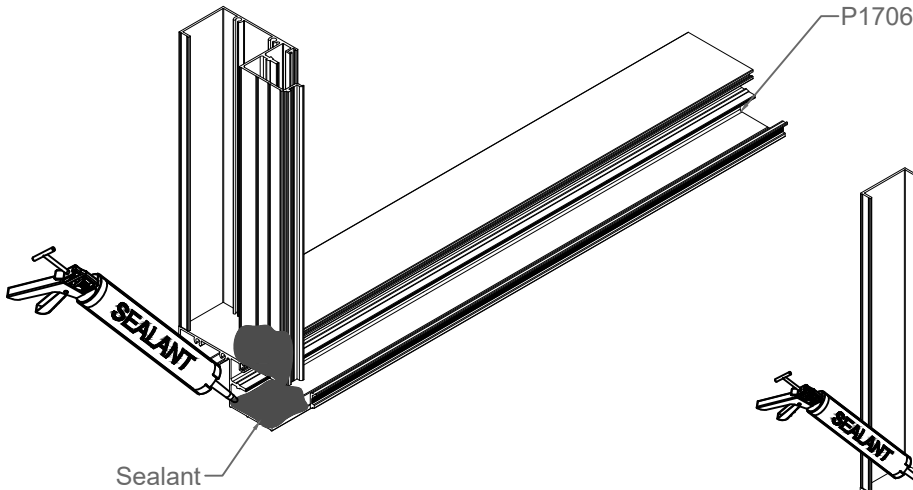

FIG. 1
- B. Apply a bed of sealant to the ends of jamb and sill. **Fig 1.**